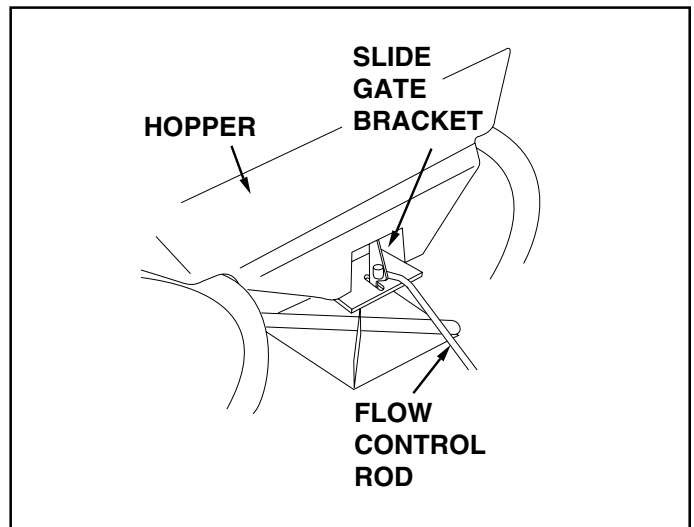

FIGURE 9
19. Hook free end of flow control rod through hole in slide gate bracket located near bottom of hopper. See figure 9.